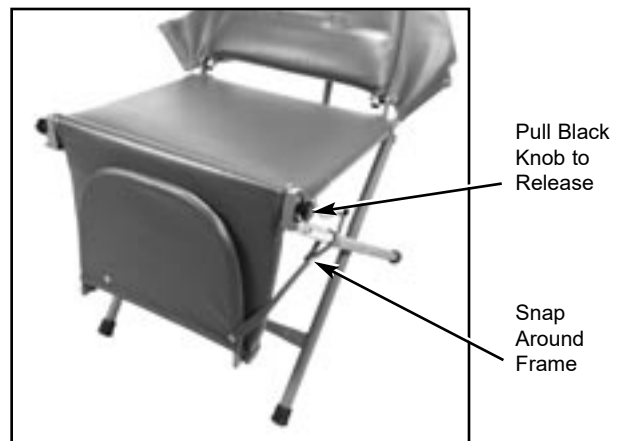

Figure 6 - Positioning footrest to vertical
3. Footrest- The footrest may be positioned in the normal horizontal operating position, or allowed to hang down vertically so a patient can be seated in a sitting position. To release footrest into the vertical position, first fold toe section inward, then lift slightly on footrest section. While lifting, pull the black knobs on each side of the chair frame to release and push footrest down into the vertical position. Lock in the vertical position by snapping holding strap around the chair leg frame. To reposition footrest in the horizontal position, unsnap holding strap from frame, lift footrest to the horizontal position until it locks, then unfold toe section out to horizontal. (Fig. 6)